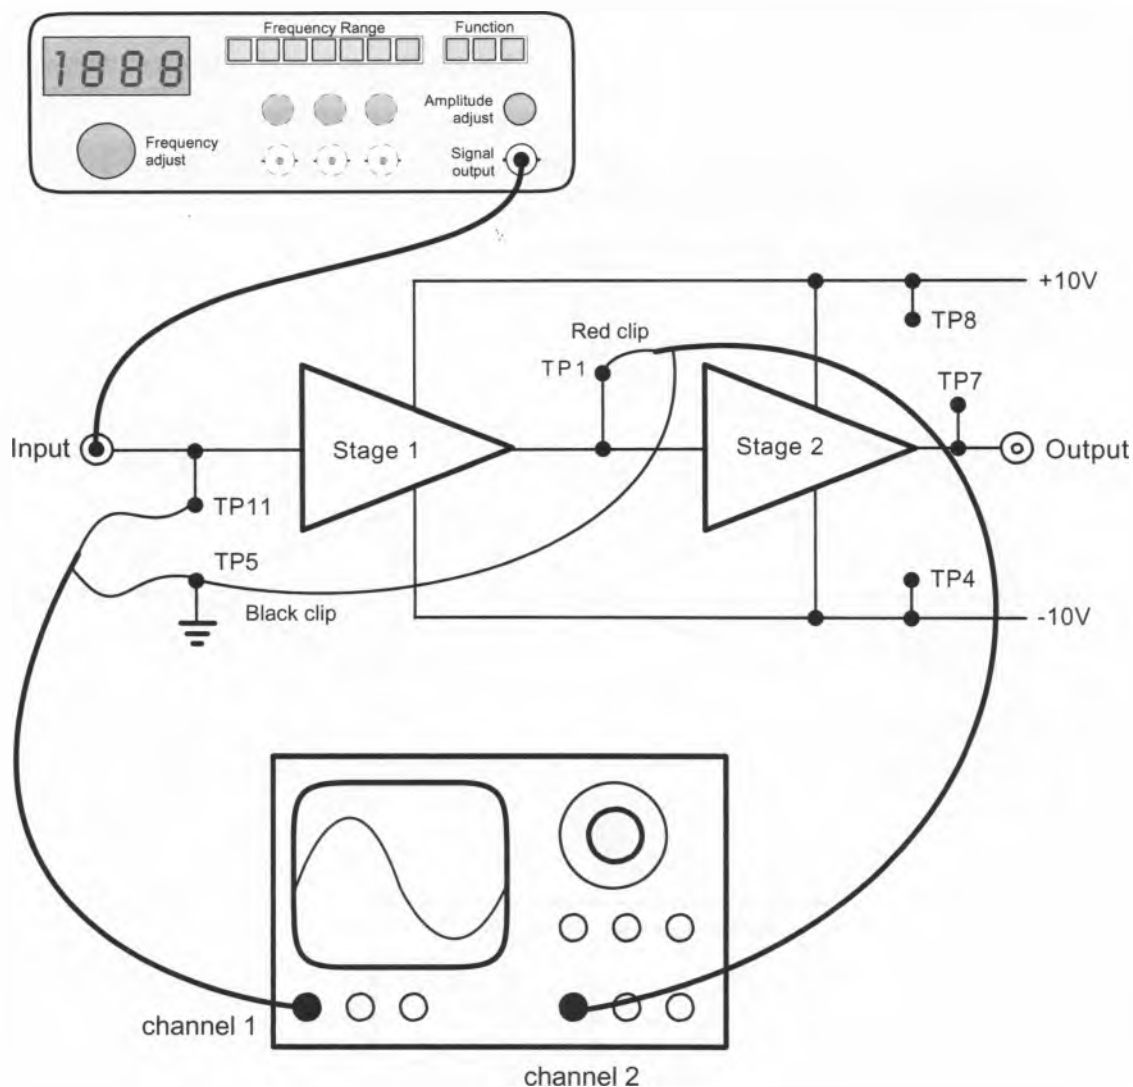

Figure 3
19. Connect the CRO's channel 2 to the output of the first amplifier stage (**TP1**) as shown in Figure 3 on the next page.